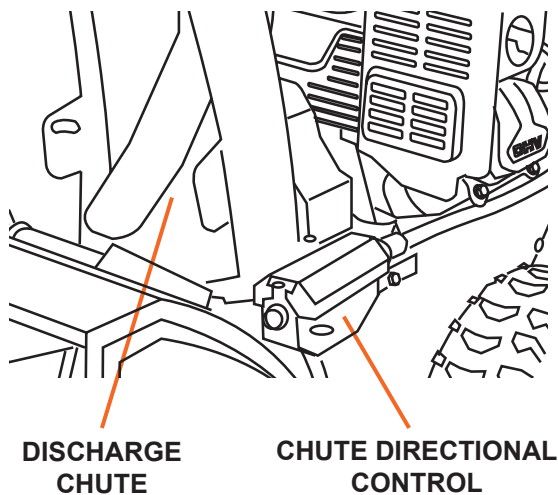

Figure 8
2. Attach the chute crank bracket aligning the chute notches with the spiral end of the chute directional control assembly using the two hex bolts, flat washers and nylon lock nuts from the hardware kit (see Figure 8). Lubricate both ends of the chute directional control crank with petroleum jelly, paraffin wax, or light machine oil.